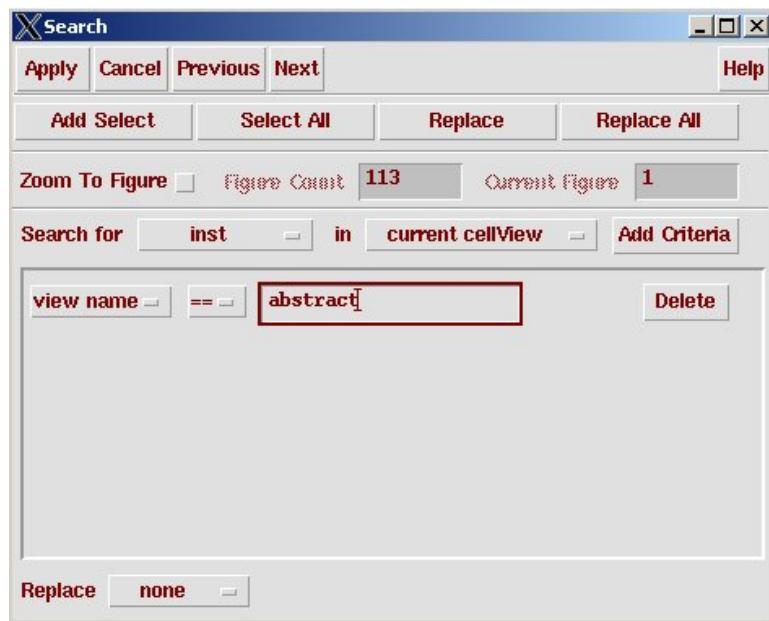

Figure 10.36: **Search** dialog box for finding all the cell abstracts
1. Select **Edit** → **Search** to bring up the **search** dialog box. You will use this search box to find all the cells in the design that are currently using the **abstract** view. Click on **Add Criteria**. In the new **criteria** change the leftmost selection to **View Name**, and change the name of the view to **abstract** (see Figure 10.36). Now clicking on **Apply** will find all the cells in the design whose **View Name** is equal to **abstract**. You should see every cell in the design highlighted. The dialog box will also update to tell you how many cells it found. In this example it found 113 cells.